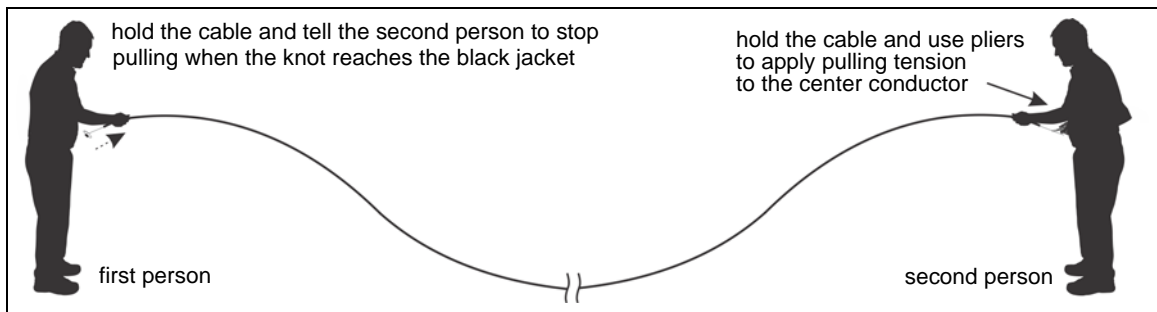

Figure 15: Mark 2 cable conditioning (part 2 cable flossing)
1. The second person begins by using pliers to apply 2.3 to 4.5 kg (5 to 10 lb) of pulling tension to the center conductor while maintaining a firm grip on the cable's black jacket (see Figure 15:). The first person holds the cable firmly by the black jacket and tells the second person to stop pulling when the knot reaches the black jacket.